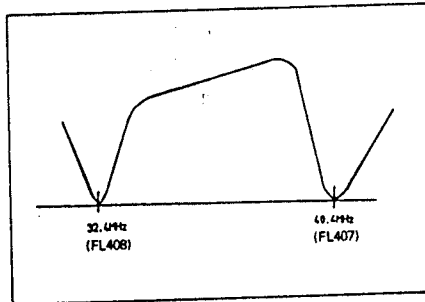

Fig. 13 Trap Adjustment
- 5) Adjust the trap (FL408, FL407) in the Tuner unit shown in Fig. 13.